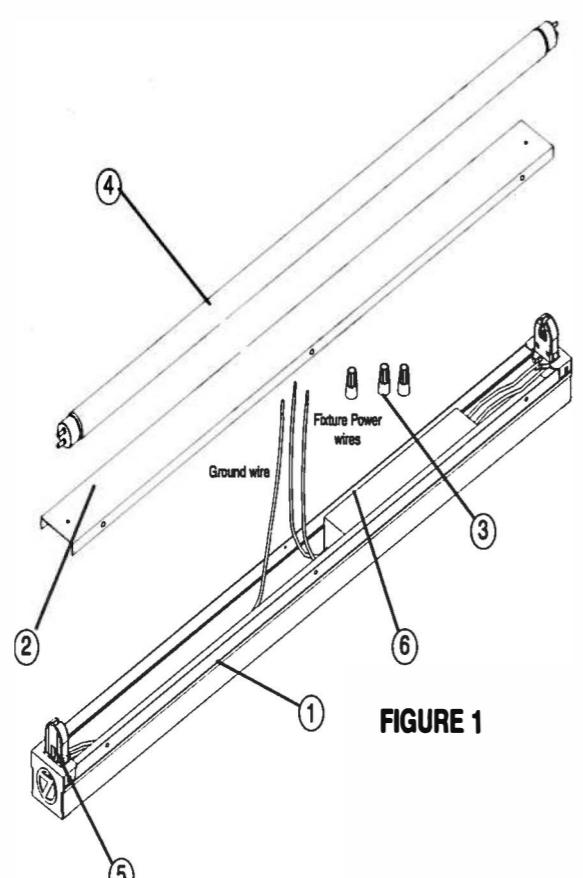

FIGURE 1
- Remove fixture components and parts pack(s). Check that all parts are included. See Fig. 1.